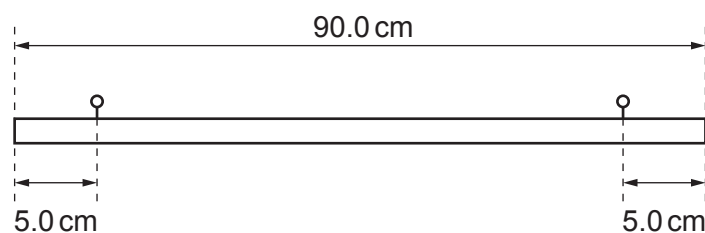

Fig. 1.1 (not to scale)
- 1 Fix the two screw eyes into the rod at a distance of 5.0 cm from each end, as shown in Fig. 1.1.